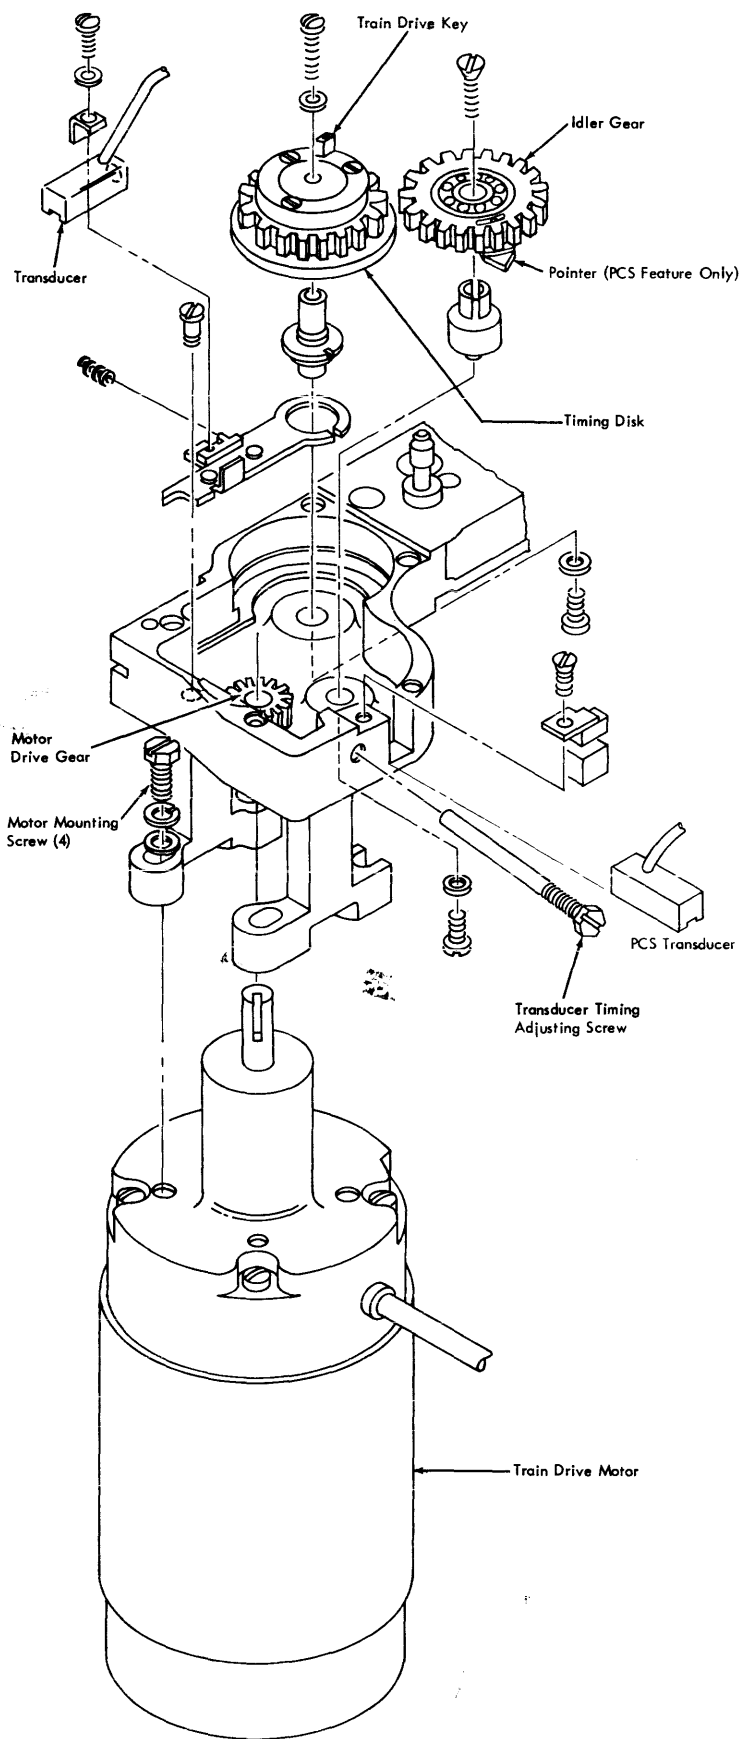

Figure 91. Train Drive and Timing Disk
3. Loosen the transducer-holding screw, and position the transducer (Figure 91) so the minimum clearance between the transducer and the closest portion on the disk is .001" to .002". Check for the closest portion by rotating the disk. *Do not adjust while the disk is turning under power.* A greater air gap may cause home-pulse resolution problems even though the output is adequate.
- h. Rotate the transducer timing adjusting screw (Figure 91), and recheck the printing until the maximum number of printed characters are centered on the hammer impression marks.
- j. If a majority of the characters are centered on the face of the hammers, the transducer adjustment is proper. If this is not the case, adjust the transducer with the timing adjusting screw (Figure 91) and repeat the printing check until it is.
1. The air gap between the pointer (see Figure 91) and the transducer should be .0015" to .0045". Move the transducer to obtain this adjustment.